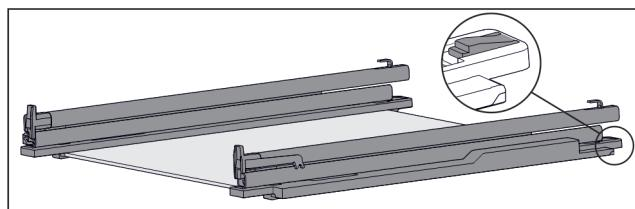

Fig. 128 Glass shelf with rails and retaining parts
- ▶ Press down retaining part at the rear (see Fig. 128) and at the same time push the rail back.